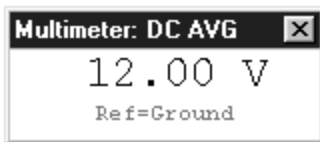

Figure 6.12. The Multimeter showing the DC operating point of a point in the circuit.
- 6 Click the **Probe Tool** on the point of the circuit where you want to analyze the DC operating point (see Figure 6.12).